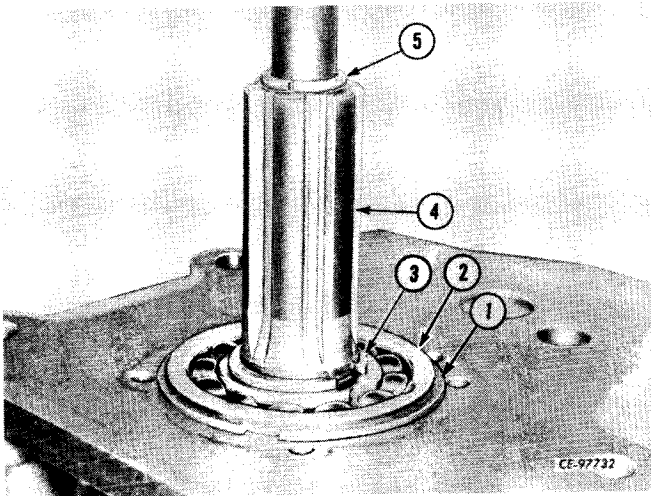

Figure 4-58
Install snap rings (1, 3, Fig. 4-58) into shaft (4) and bearing (2) and press shaft (4) tight into position. Install spacer ring (5) and tape into position on assembly of main drive gear.